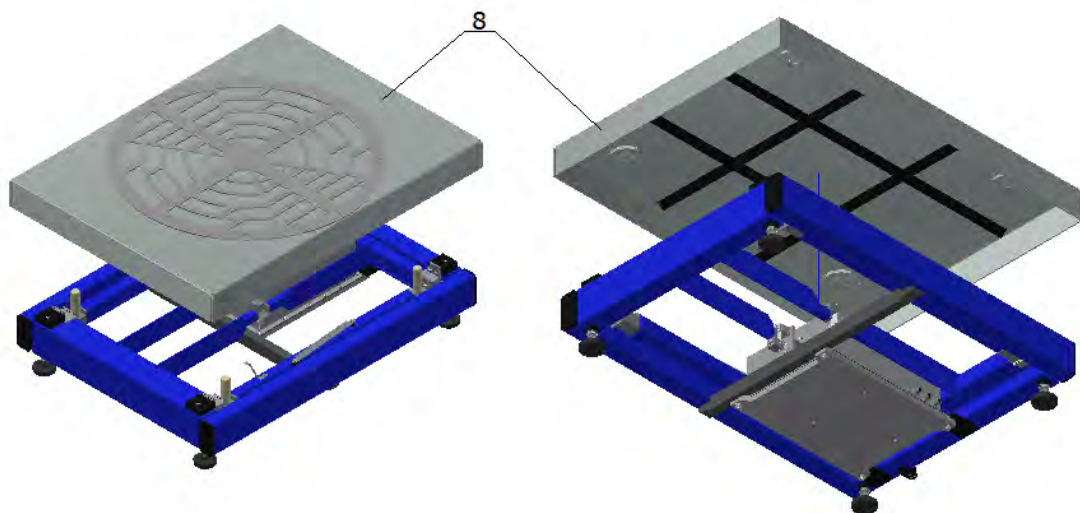

Fig.5
5. Put the weighting pan (8) onto the mandrels (4). (Fig. 5)